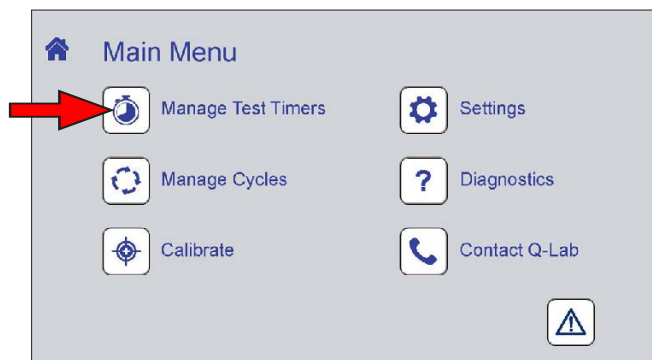

Figure 11.5a: Manage Test Timers icon.
- On the Main Menu screen touch the Manage Test Timers icon to display the Manage Test Timers screen (Figure 11.5a).